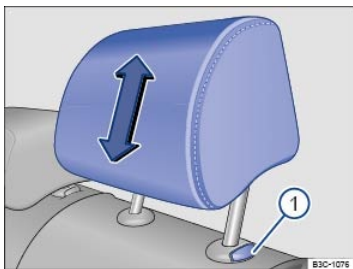
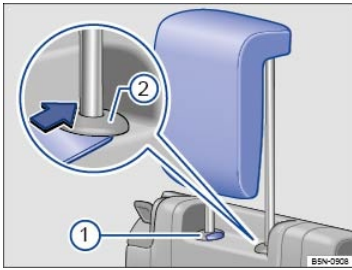

Fig. 87 Removing the second row head restraints.
Fig. 88 Removing the third row head restraints (if equipped).
- Push button ⇒ Fig. 87① in and hold it in this position.
- Slide a flat object (plastic card) in against the guide rod to depress a release button located under the cap ⇒ Fig. 88② (not visible) and hold it in this position.
- At the same time, press button ⇒ Fig. 88① while a second person pulls out the head restraint completely.
- Push the head restraint down while pressing button ⇒ Fig. 87① or ⇒ Fig. 88①.